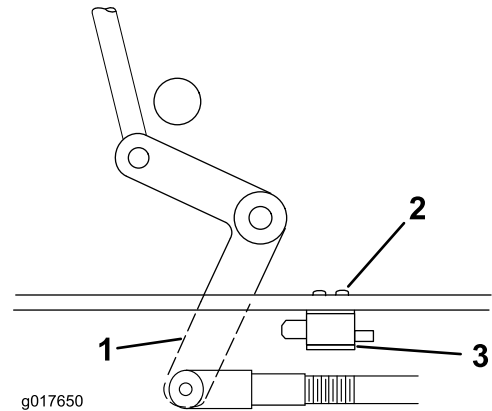

Figure 44
4. If needed, adjust the PTO-safety switch by loosening the bolts securing the switch bracket (Figure 44).
Important: Ensure that the bellcrank does not touch the switch body; otherwise, damage to the switch could occur (Figure 44).